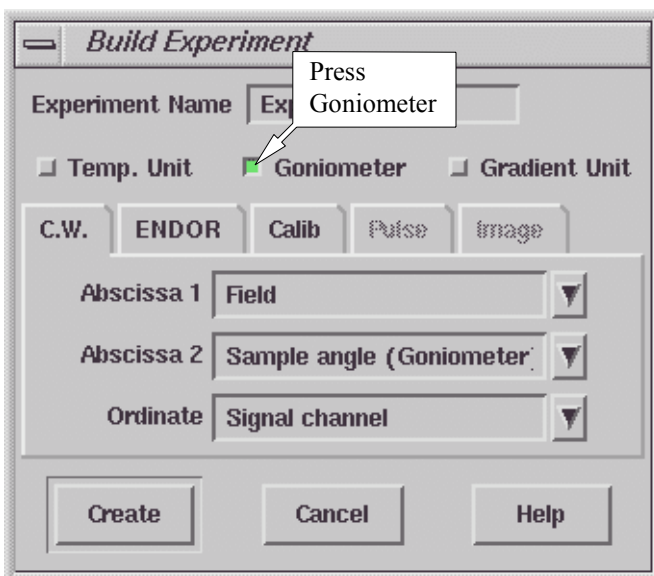

Figure 12-31 Defining a goniometer experiment.
1. **Define a goniometer experiment.** Open the New Experiment dialog box. Click the Goniometer button to activate it. If you want to acquire a 2D spectra you can select Sample angle (Goniometer) in the Abscissa 2 drop-down list. Click Create to close the dialog box. (See Figure 12-31.)